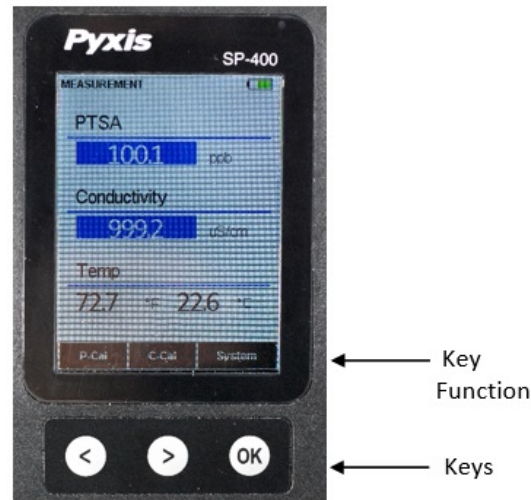

Figure 2.
The SP-400 has three control keys, as shown in Figure 2. The left (<), right (>), and ok (OK) keys are used to launch actions indicated on the LCD display directly above the keys. The labels above the keys indicate the function associated with each key and functions can be changed in different operation modes.
Before beginning a measurement, use the sample water to rinse the sample cell at least three times. Allow 5–10 seconds for the SP-400 to stabilize. The values will be displayed in **white with a blue background** if a stable value is reached (Figure 2). For a sample with conductivity in the range of 100 to 6000 $\mu\text{S}/\text{cm}$, the measured value should be stabilized in the range of 98–102 to 5940–6060 $\mu\text{S}/\text{cm}$, respectively. For a sample containing 100 ppb PTSA, the measured PTSA should be stabilized within the range of 98–102 ppb.